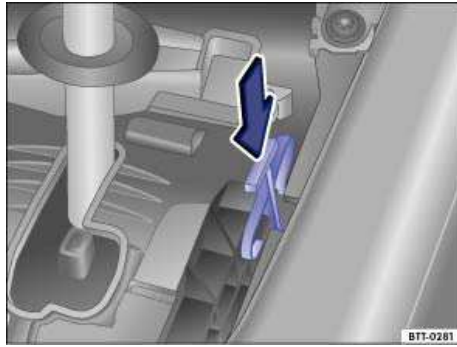

Fig. 152 Releasing the selector lever lock.
- Push the colored release lever ⇒ fig. 152 in the direction of the arrow and hold it in this position.
- Press the release button in the selector lever handle and shift the selector lever to Neutral (N).